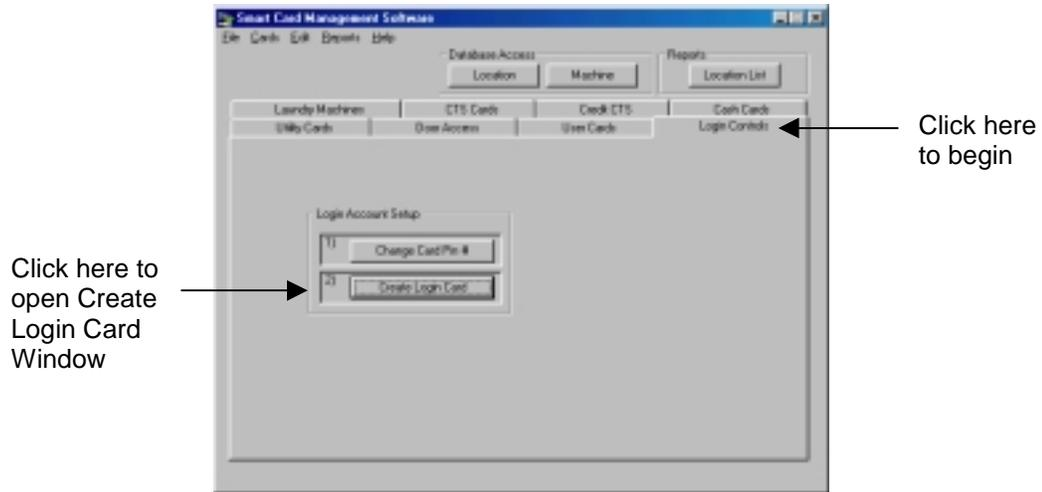

Figure 4.2 Opening a Login Create Card Window
1. Click the Login Controls tab (Figure 4.2).
2. Click the Create Login Card button (Figure 4.2).
1. Once a user is in the system, a login card can be created. In the Login Controls tab, click the Create Login Card button (Figure 4.2).
1. In the Login Controls tab, click the Create Login Card button (Figure 4.2).